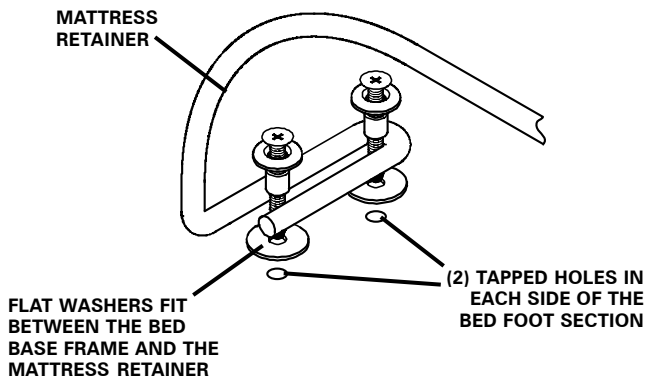

FIGURE 5: Mattress retainer installation
b. Install the mattress retainer bolts (loosely) into tapped holes in the foot section of the bed base frame (FIGURE 5).
c. Slide each U-shaped end of the mattress retainer around the mattress retainer bolts. Position the retainer ends between the spacer and the washer (FIGURE 5).